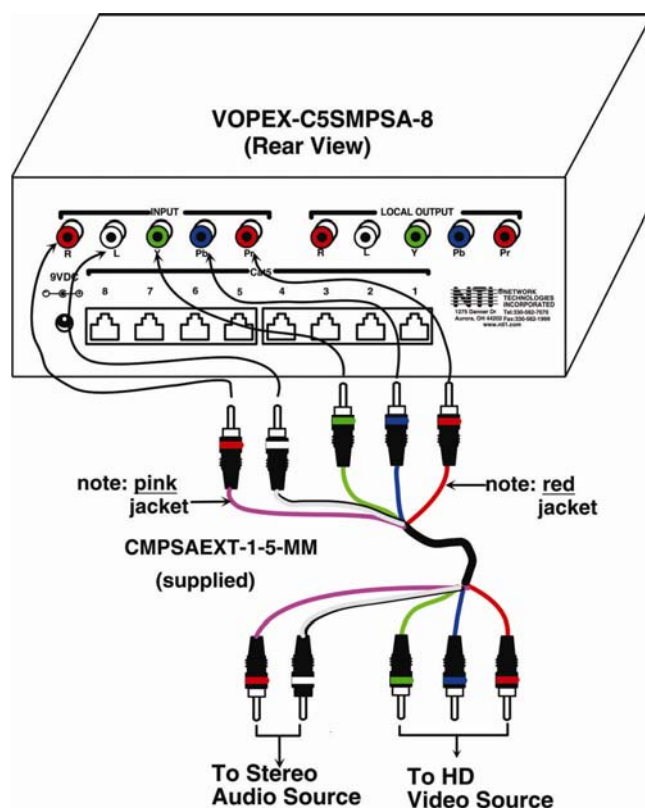

Figure 5- Connect HD Video and Stereo Audio sources
1. Make connections between the VOPEX-C5CMPSA-x and the stereo audio and HD video source. (See Fig. 5.)